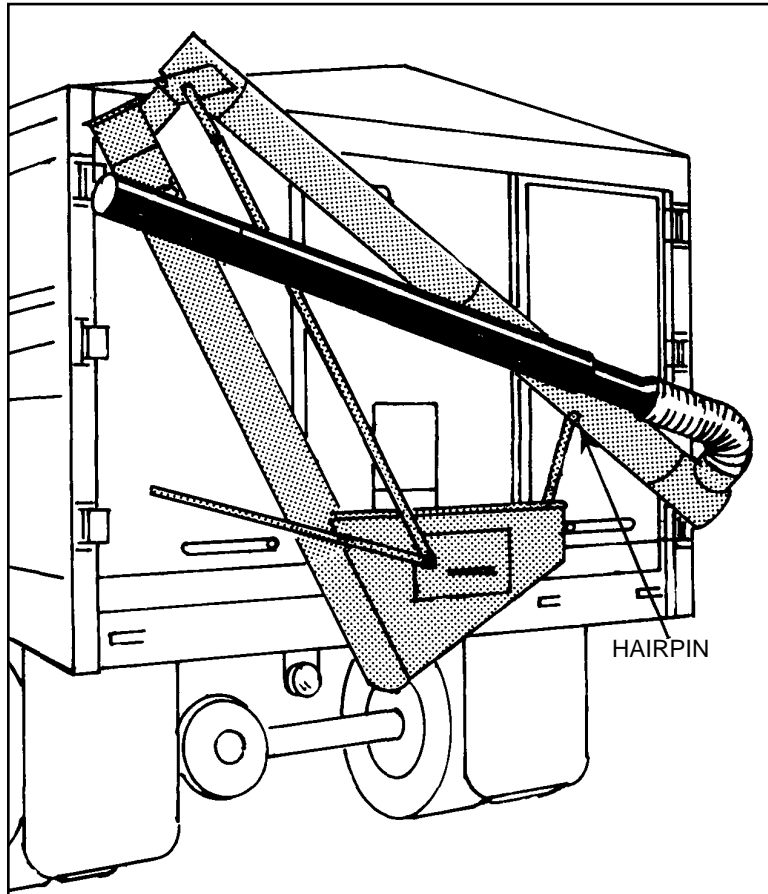

Figure 4.1 Hairpin Location
- Never transport the Drill Fill with auger in working position. Before transporting, ensure the upper auger tube is seated on the upper tube support brace and hairpin is fastened to lock the auger into transport position, refer to Figure 4.1.